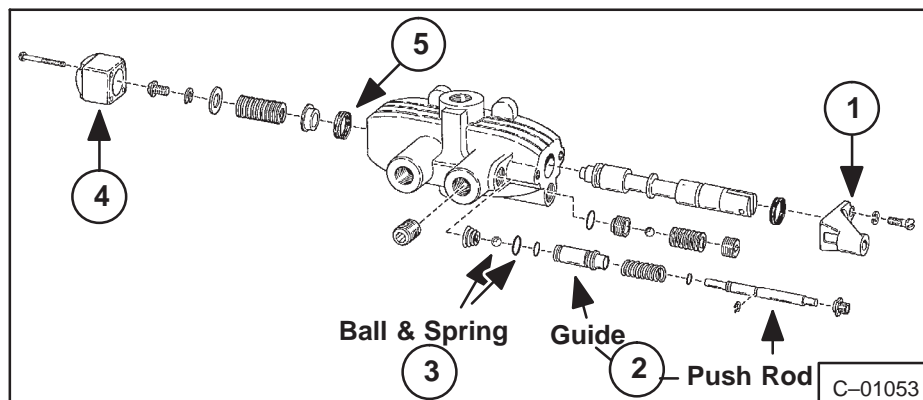

Fig. 4-15 Variable Speed Valve Parts
3. Remove temperature release valve bracket (Fig. 4-15, Item 1).
4. Remove push rod guide and push rod (Fig. 4-15, Item 2).
5. Use magnet to remove ball and spring (Fig. 4-15, Item 3).
6. Remove end cap and spring (Fig. 4-15, Item 4).
7. Install seal on dust cap end of spool (Fig. 4-15, Item 5).
4-16 ASSEMBLY OF VARIABLE SPEED CONTROL VALVE, SEAL REPLACEMENT WITH CONTROL VALVE IN THE BOBCAT (With Holding Release Valve) (Fig. 4-15)